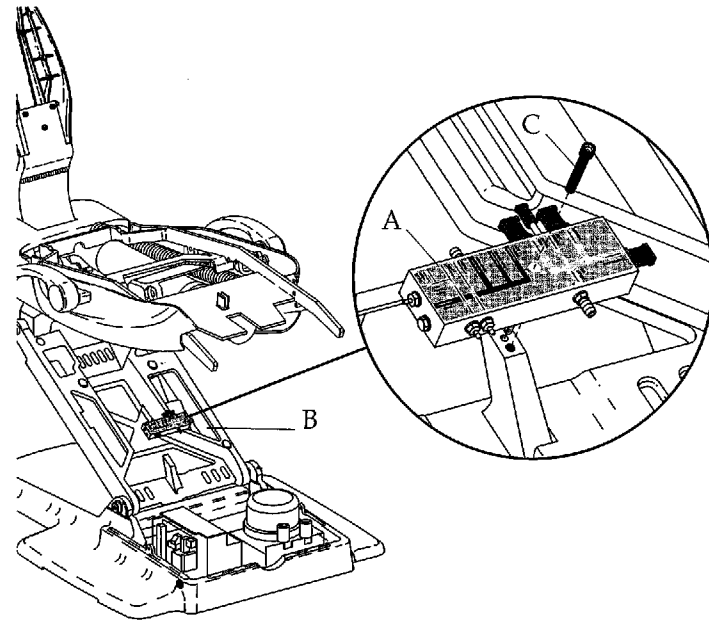

Figure 32. Attaching the chair air/water manifold. (A) chair air/water manifold; (B) chair lift arm; (C) mounting screw
3. Secure the manifold with the mounting screw (see Figure 32).